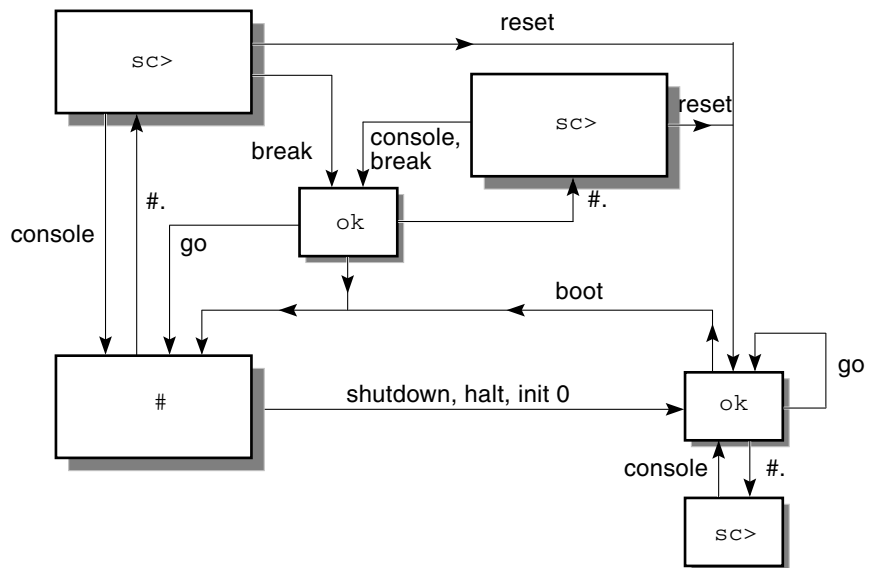

FIGURE 1-1 System Prompt Flow
- FIGURE 1-1 System Prompt Flow 3
FIGURE 1-1 shows the relationship between the three prompts and how to change from one to the other.
The following commands are in the flow diagram in FIGURE 1-1: